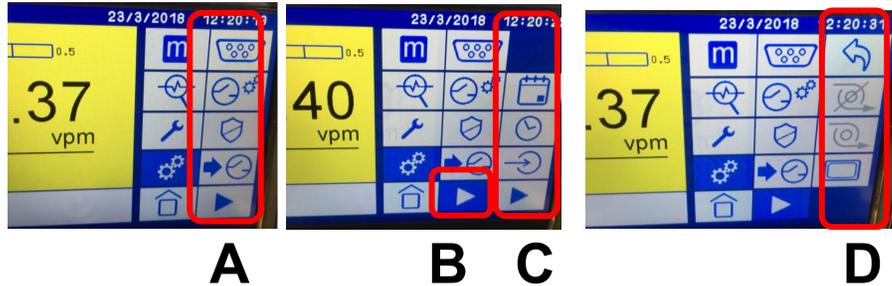

Figure 5-4: The User Interface Menu screen with the Settings branch activated
Figure 5-4 shows a Step Series of Screens that are launched when the Settings Main Menu icon is touched:
- The first series of functional icons that belong to the Settings section are displayed in the column of icons to the right of the Main Menu icons (Figure 5-4 A).
- To display the next set of functions touch which brings up the second set of Setting functions (Figure 5-4 C) to the right of the first set (Figure 5-4 A). Note that is activated as the background color is now blue (Figure 5-4 B).
- To get the third and final set of functions touch at the bottom of the list of the last column (Figure 5-4 C) and the third set of icons will replace the second set in the final column position (Figure 5-4 D).
- To return the second set of features touch the Return icon  at the top of the last column and the middle screen in Figure 5-4 will be returned.